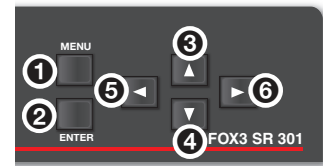

Figure 9. Menu Selection Buttons
- **Menu button** — Press the **Menu** button (see figure 9, ①) to activate or exit the on-screen menu, deselect a submenu, or cancel a pending change.
- **Enter button** — Press the **Enter** button (②) to access the on-screen menu, select submenus, submenu items, or to accept pending changes.
- Press the ▲ (**Up**) (③) or the ▼ (**Down**) (④) arrow button to navigate submenus or submenu items.
- Press the ◀ (**Left**) arrow button (⑤) to access currently selected submenus or submenu items.
- Press the ▶ (**Right**) (⑥) arrow button to exit currently selected submenus or submenu items.